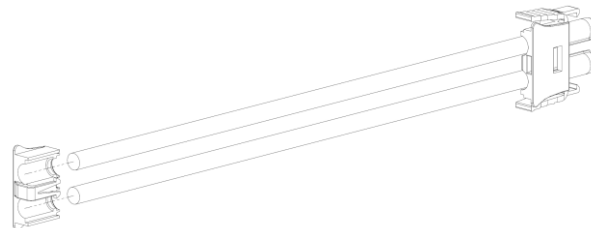

Fig. 2-12: Insert retainer
38. Insert retainer into plug housing as shown in Fig. 2-12.